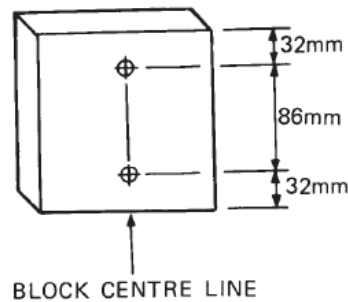

Figure 14 Anode Block Drilling Locations
- If a new anode block is to be installed, drill two 9.5 mm (3/8 in.) diameter holes in the anode block as show in Figure 14.